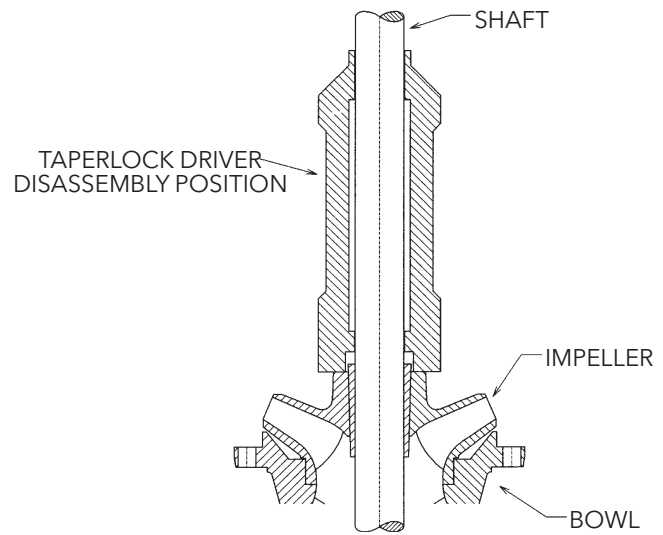

Figure 20
3. Pull shaft out as far as possible and strike the hub of the impeller by taperlock driver, or equivalent, until the impeller is off the taperlock (See Figure 20).